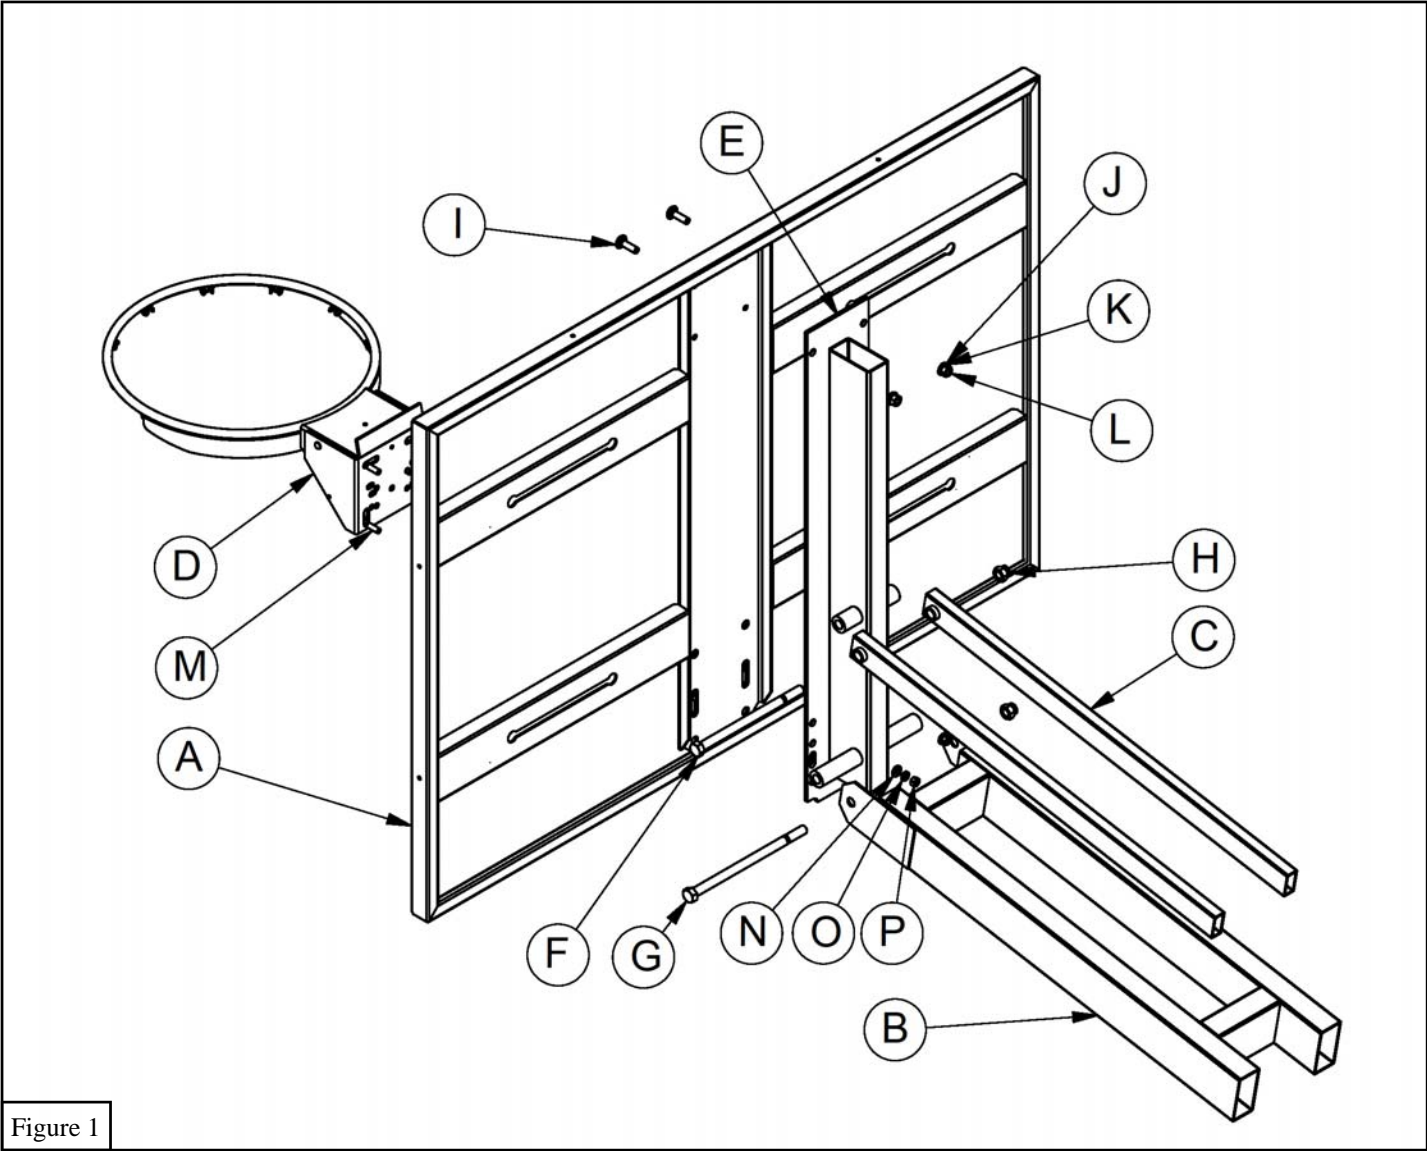

Figure 1
1. Use *Bottom Pivot Bolt* (G), *Top Pivot Bolt* (F) and *Lock Nuts* (H) to attach *Steel Board Bracket* (E) to *Extension Arm* (B) and *Parallel Linkages* (C). Do not overtighten hardware, make sure the *Extension Arm* (B) and *Parallel Linkages* (C) pivot and adjust up and down freely. See Figure 1.
2. Hang *Steel Backboard* (A) over the top lip of *Steel Board Bracket* (E). Use *7/16" X 1 1/2" Carriage Bolts* (I), *7/16" Flat Washers* (J), *7/16" Lock Washers* (K) and *7/16" Hex Nuts* (L) in the top two holes of *Steel Backboard* (A) and *Steel Board Bracket* (E). Hand tighten hardware at this time. See Figure 1.
3. Use *3/8" X 1 1/2" Hex Bolts* (M), *3/8" Flat Washers* (N), *3/8" Lock Washers* (O) and *3/8" Hex Nuts* (P) to install *Rim* (D). Hand tighten hardware at this time. See Figure 1.
4. Level *Steel Backboard* (A) and *Rim* (D). Tighten all hardware.